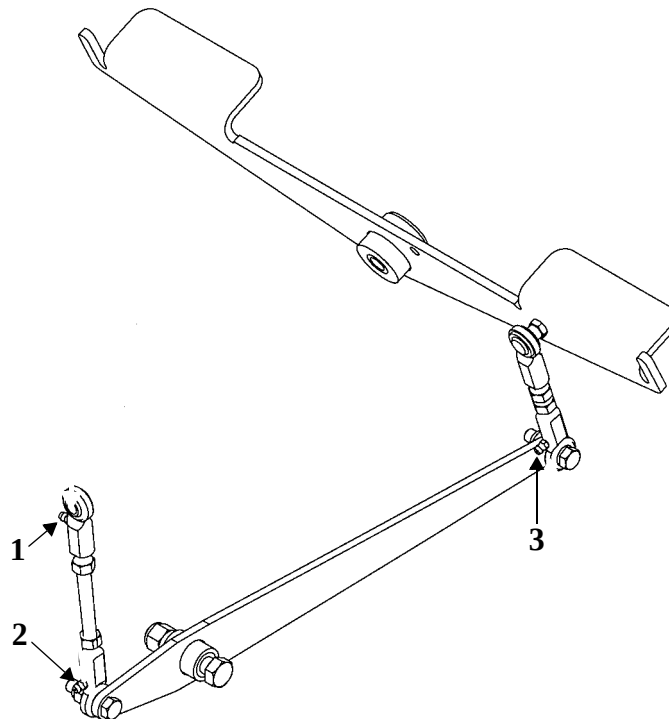

Figure 15
- Pump the grease gun **once** into each of the 3 grease fittings of the swing mechanism control pedal (see *Figure 15*, below).